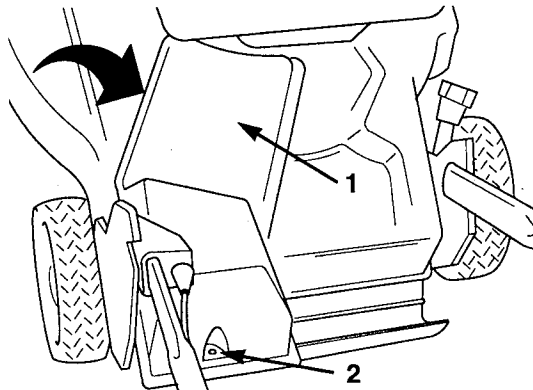

Figure 29
1. Remove the transmission cover screw and slide the cover to the right (Fig. 29)